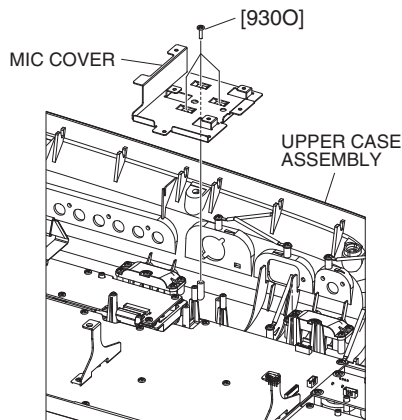

Fig. 10
- 19-4 Remove the three (3) screws marked [930O]. The MIC cover can then be removed. (Fig. 10)